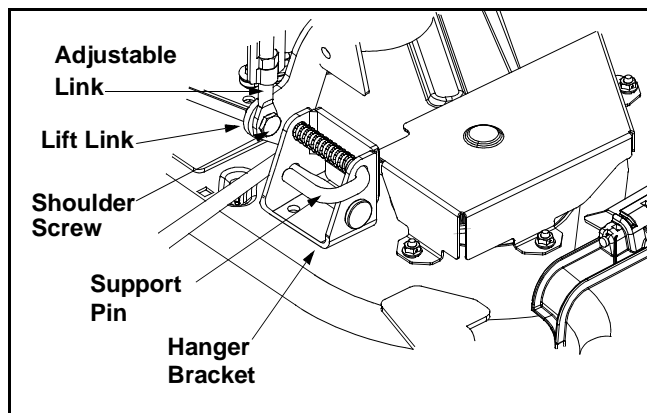

Figure 19
- Remove the shoulder screw that holds the lift link to the hanger bracket on the side to be adjusted. See Figure 19.